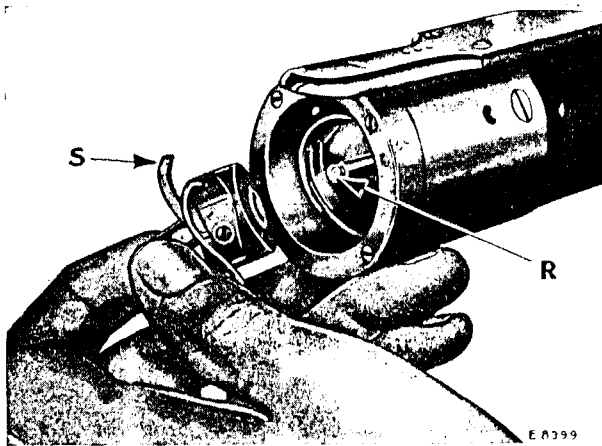

FIG. 9. REPLACING THE BOBBIN CASE
Fig. 9. Place the bobbin case on the center stud (R) of the shuttle body with the position finger (S) opposite the notch at the top of the shuttle race. Release the latch and press the bobbin case back until the latch catches the groove near the end of the stud. Allow about three inches of thread to hang free.